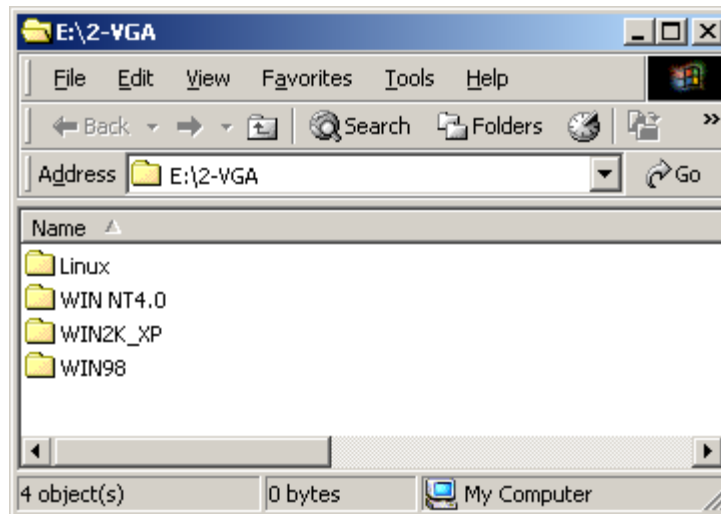

Figure 7-7: VGA OS Folders
Step 2: A new window opens (**Figure 7-7**).